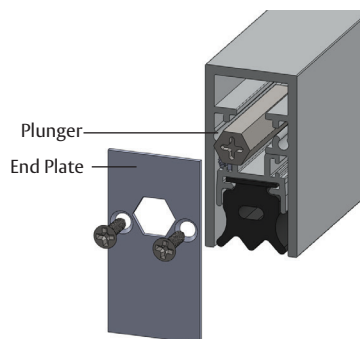

Figure 5
4. On the plunger side, with the "This Side In" sticker towards the ADB, align the end plate's hexagonal hole with the plunger and install using the end plate screws as shown in Figure 5 (PEMKO logo should be visible).